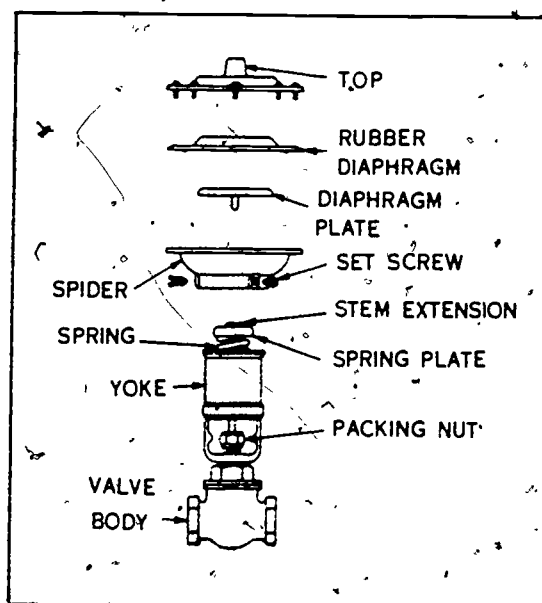

Figure 1-54. Exploded view of a pneumatic valve.
c. Pneumatic valve. The pneumatic valve, shown in figure 1-54, is used to control the flow of liquids and gases in the system. The body of the pneumatic valve is similar to that of the globe valve, but the valve disc is operated by a spring and diaphragm. The pneumatic valve is so designed that a spring holds the valve disc on its seat, but the application of air pressure to the diaphragm raises the valve off its seat. Thus, the valve can be remotely operated by air pressure. Vacuum-